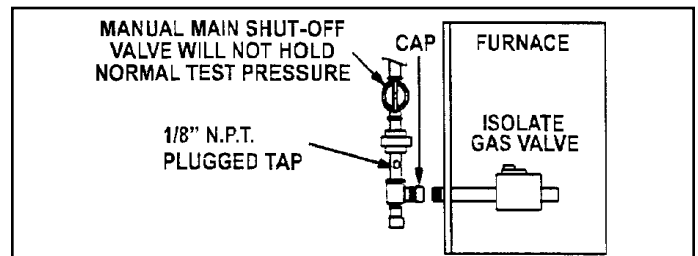

Figure 42.
5. A 1/8" NPT plugged tap or pressure post is located on the gas valve to facilitate test gauge connection. See Figure 42.
When testing gas lines using pressures in excess of 1/2 psig (3.48 kPa), gas valve must be disconnected and isolated. See Figure 42. Gas valves can be damaged if subjected to pressures greater than 1/2 psig (3.48 kPa).